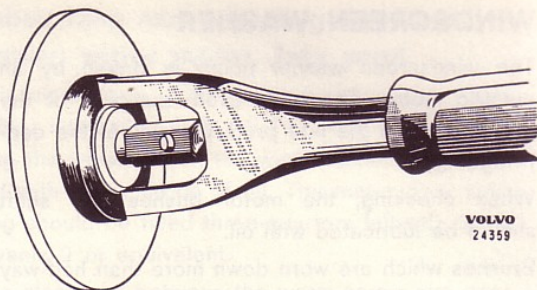

Fig. 108. Switch removed
3. Disconnect the switch by unscrewing the nut with a suitable tool as shown in Fig. 108.